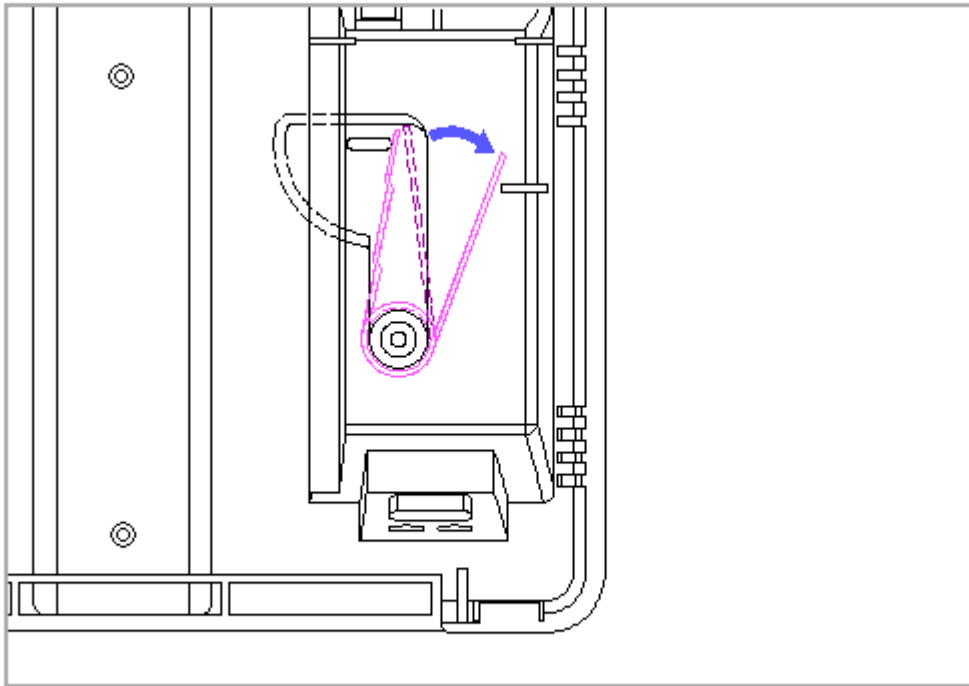

Figure 9-63. Installing the Horizontal Guide (Power Switch Side)
4. Keeping the spring compressed, place the horizontal guide over the horizontal guide pivot post in the top cover and the curved surface of the horizontal guide into the horizontal guide slot and release the spring (Figure 9-63).